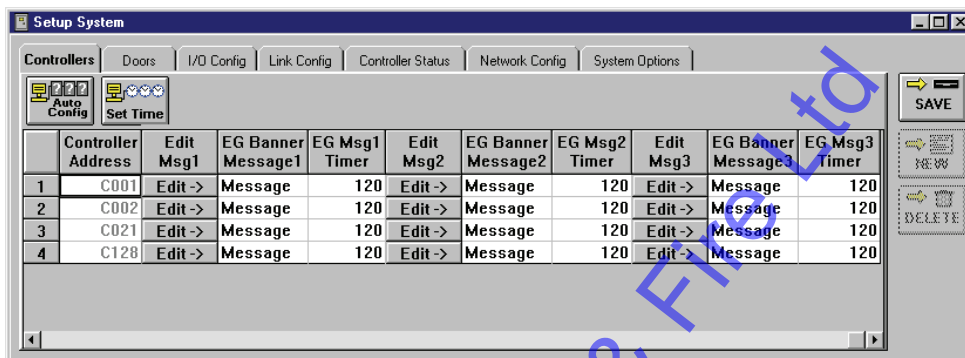

Figure 10-5: Setup System Controllers Tab – Part 2 (EntraGuard Gold/Titanium)
1. To edit the banner message, click on the Setup ⇒ System pull-down menu or click on the  tool bar button. Then click on the **Controllers** tab. The Controllers window appears (see Figure 10-5).
3. Scroll across that controller’s row in the spreadsheet and locate the **Edit Msg1** column (see Figure 10-5).